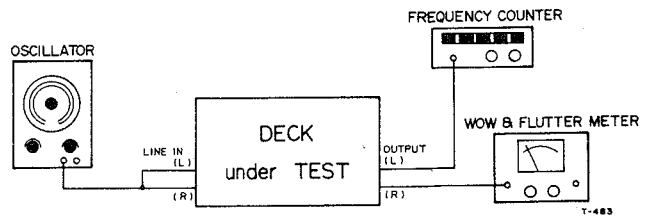

Fig. 5-3 Tape Speed/Wow & Flutter Measurement Setup
1. Connect test equipment to the deck, except the AF oscillator, as shown in Fig. 5-3.
1. Connect test equipment to the deck as shown in Fig. 5-3.